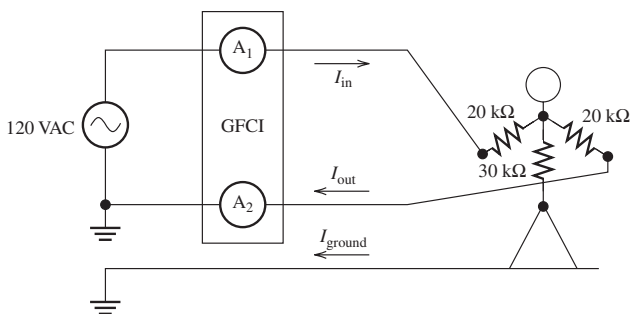

FIGURE P15.35 Circuit diagram for Problem 15.35.
- 15.35** (A)* An individual comes into contact with the incoming and return conductors of a GFCI-protected circuit, as shown in Figure P15.35.